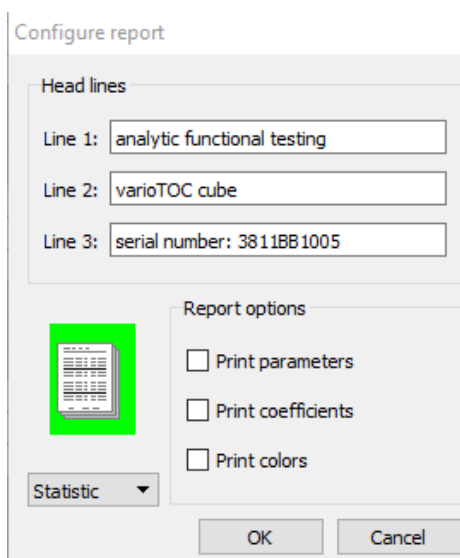

Figure 10: The report configuration window. "Statistic" is selected from the dropdown menu to the bottom left.
- 3.5.3.2 In the "configure report" dialogue box, select "statistic" from the dropdown menu on the lower left side, and click "OK" (Figure 10).